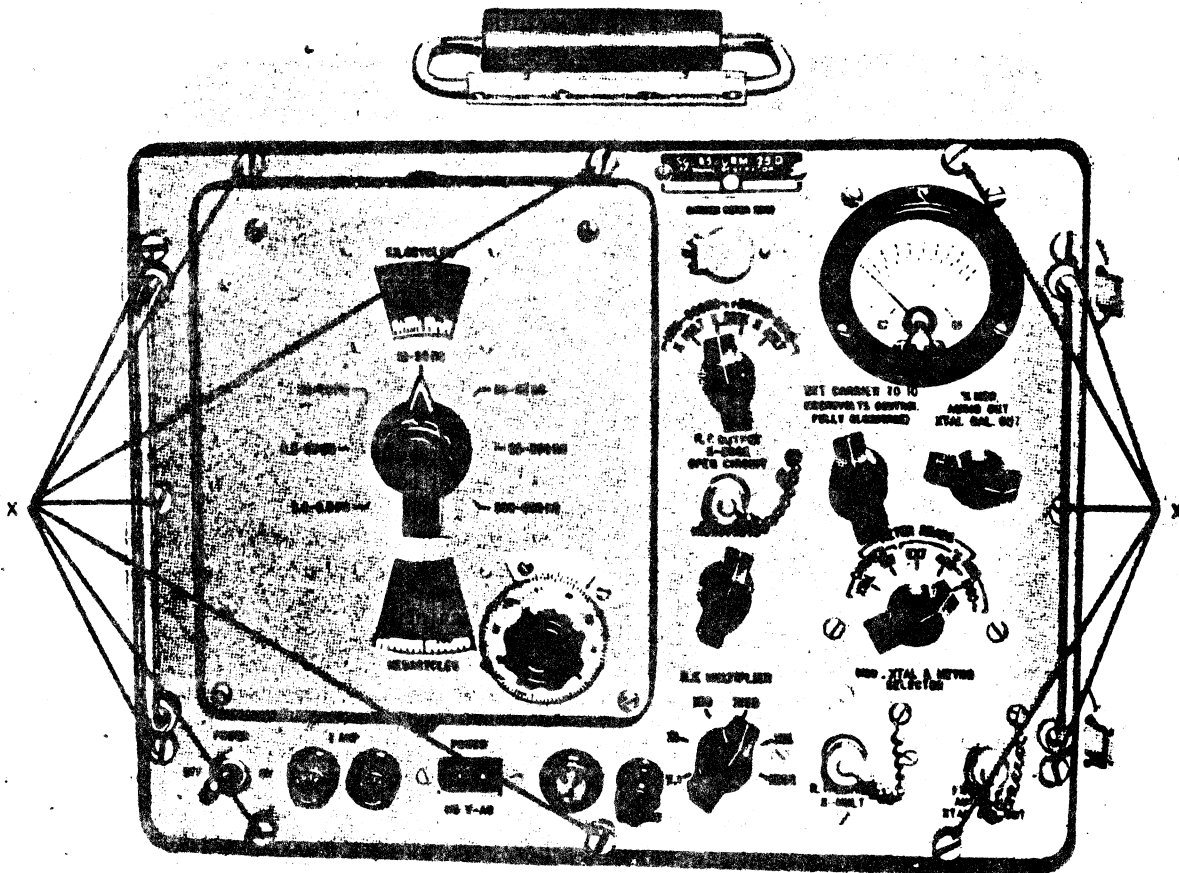

Figure 6-2. Front Panel View for Removal of RF Signal Generator SG-85/URM-25D from Cabinet
- (1) Disconnect the power cable (W101-1).
- (2) Loosen the twelve captive screws (x) located around the outer edge of the panel (figure 6-2).
- (3) Gently pull the generator chassis about eight inches from the cabinet, using the lifting handles provided on the front panel. The generator unit cannot be completely removed since the interconnecting power cable (W102) and output power cable (W103) are still connected to the power supply sub-chassis.
- (4) Remove the output power supply connector (P102) and the AC input connector (P101) from the power supply sub-chassis. The generator sub-assembly can now be removed. The power supply sub-chassis will remain in the cabinet.